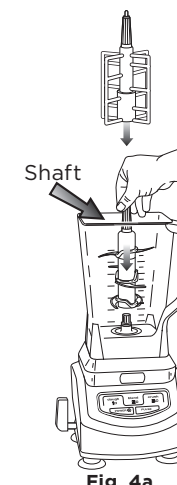
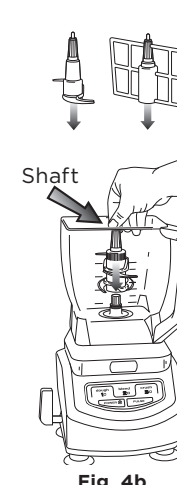

Fig. 4a
Fig. 4b
- 5 Holding the desired attachment by the shaft, place it onto the gear shaft inside the container. Ensure that the attachment fits around the gear shaft and that it is standing straight. (Fig. 4a, Fig. 4b)